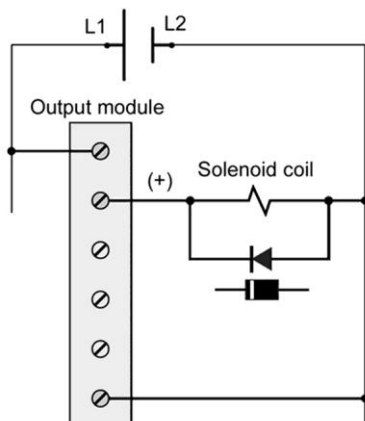

Figure 13-1 Suppression circuit for question 19.
19. The diode used in the suppression circuit of Figure 13-1 19. _____